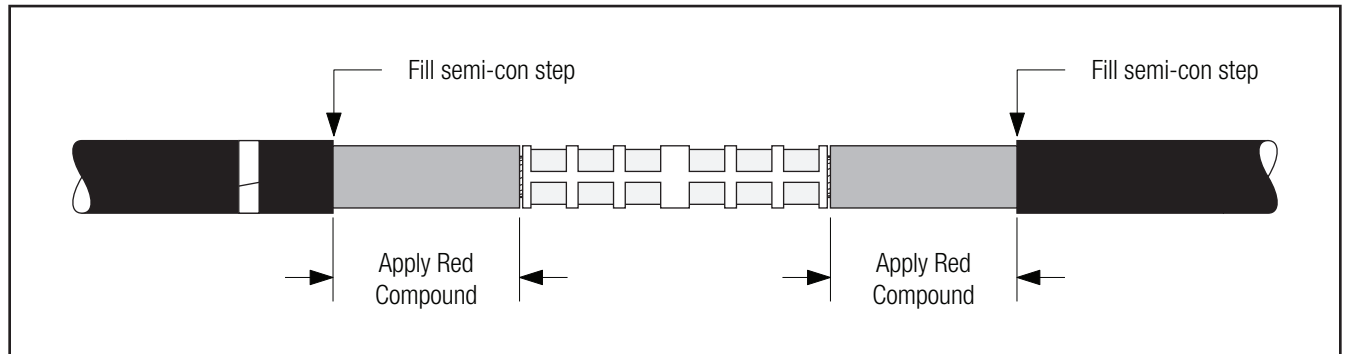

Figure 11
4.4 Apply red compound on cable insulations, making certain to fill in edge of cable semi-con. **Do not use silicone grease (Figure 11).**